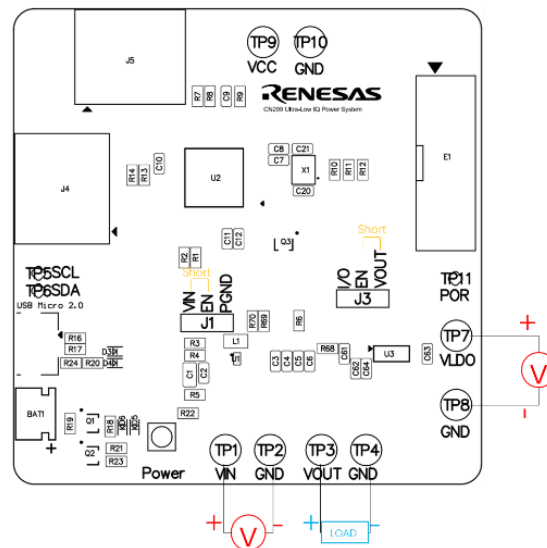

Figure 2 The Connection of the Default Output
- 1, Connect the power supply to the input terminals VIN (TP1) and GND (TP2). Connect the load to the output VOUT (TP3) and GND (TP4). Short VIN and EN on J1, and EN and VOUT on J3. Make sure the setup is correct prior to applying any power or load to the board. Refer to Figure 2.
- 3, Verify the output voltage is 3.3V(VOUT) and 1.8V(VLDO). Refer to Figure 2.
1. Connect the battery to BAT1. Connect the load to the output VOUT (TP3) and GND (TP4). Short VIN and EN on J1, and EN and VOUT on J3. Make sure the setup is correct prior to applying any power or load to the board. Refer to Figure 2.
3. Verify the output voltage is 3.3V(VOUT) and 1.8V(VLDO). Refer to Figure 2.
1. Connect PC to CN299-ISL9122A board using USB cable. Connect the load terminals to the output VOUT (TP3) and GND (TP4). Short VIN and EN on J1, and EN and VOUT on J3. Make sure the setup is correct prior to applying any power or load to the board. Refer to Figure 2.
2. Verify the output voltage is 3.3V(VOUT) and 1.8V(VLDO). Refer to Figure 2.